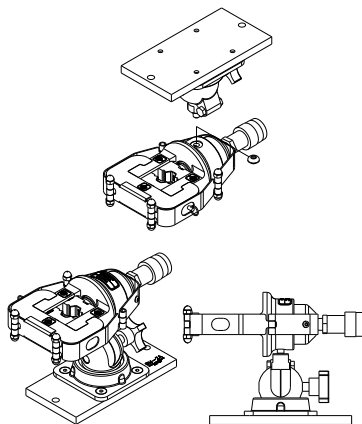

Figure 3
1. Hold the TBHD1M head, either by hand or in a vise, with the cap screw oriented upwards as shown in the top view of Figure 3.